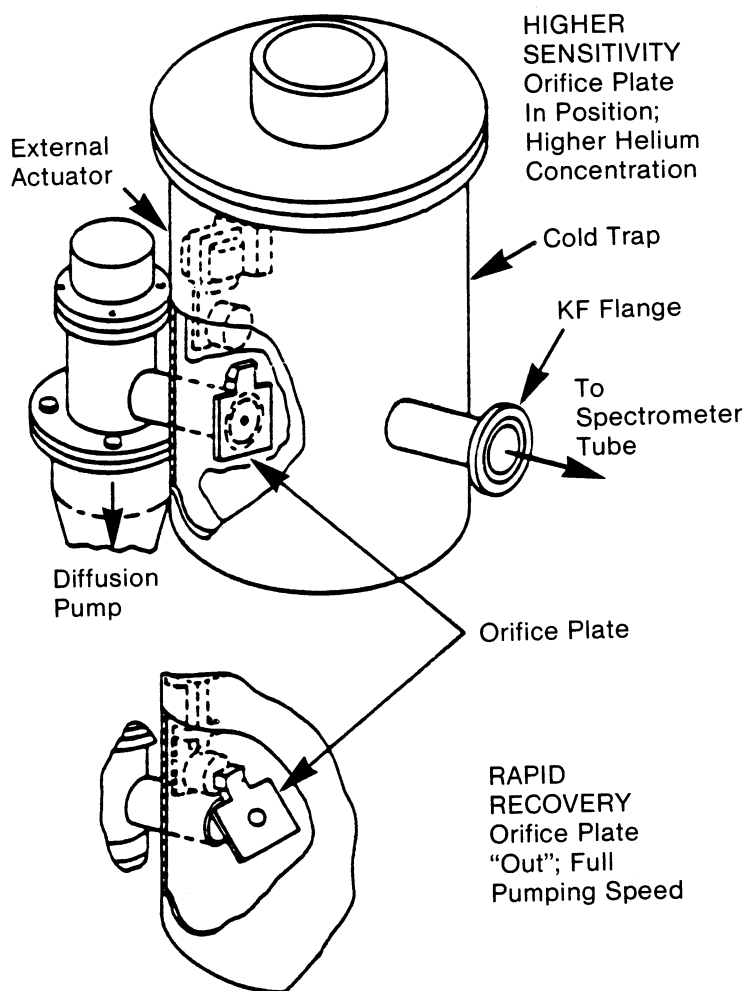

Figure 4-6
The restriction plate has two modes of operation (Figure 4-6).
- (1) Set the ORIFICE switch (located under the Leak Indicator) in the AUTO position. The orifice restriction plate will be closed (See Figure 4-6) when the TEST display is lighted. When the leak detector is VENTED or while rough pumping the ORIFICE will be off, or open for rapid removal of helium from the spectrometer tube to prepare for the next test piece.
- (2) Set the ORIFICE switch in the OFF position. The orifice restriction plate will be open at all times. Operation and sensitivity will now be similar to the 936-60.
The 936-60 leak detector is used with the Range Scale Selector displaying ranges from 10^{-9} through 10^{-6} std cc/sec (Figure 4-6) (Readings from 2×10^{-10} std cc/sec to 10×10^{-6} std cc/sec.)